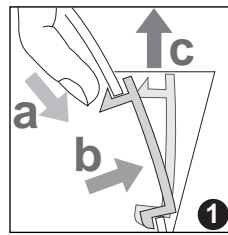
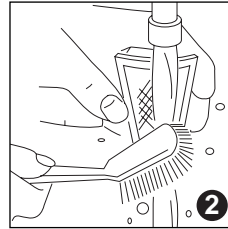

Fig. 1
fig. 2
- Remove the filter as shown in fig. 1 and wash with water (fig. 2). Refer to page 5. "Removing the scale filter"
- Empty the kettle and remove the filter as shown in fig. 1.
- Rinse under a tap whilst brushing with a soft brush (fig. 2).